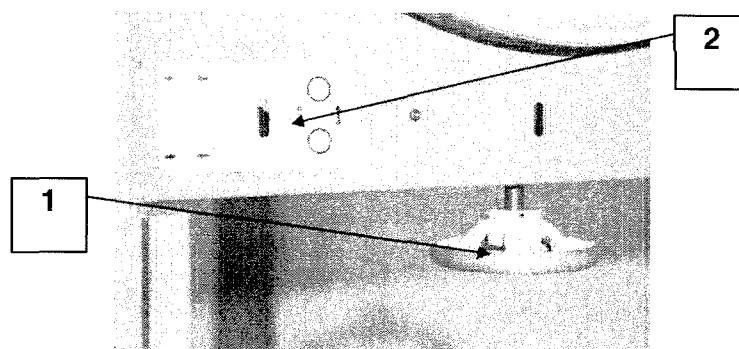

Figure 5.4
- 3) Tighten lock nut (1).
5.4 Tensioning a Saw Blade (using Tensioning Scale) (Figure 5.4)